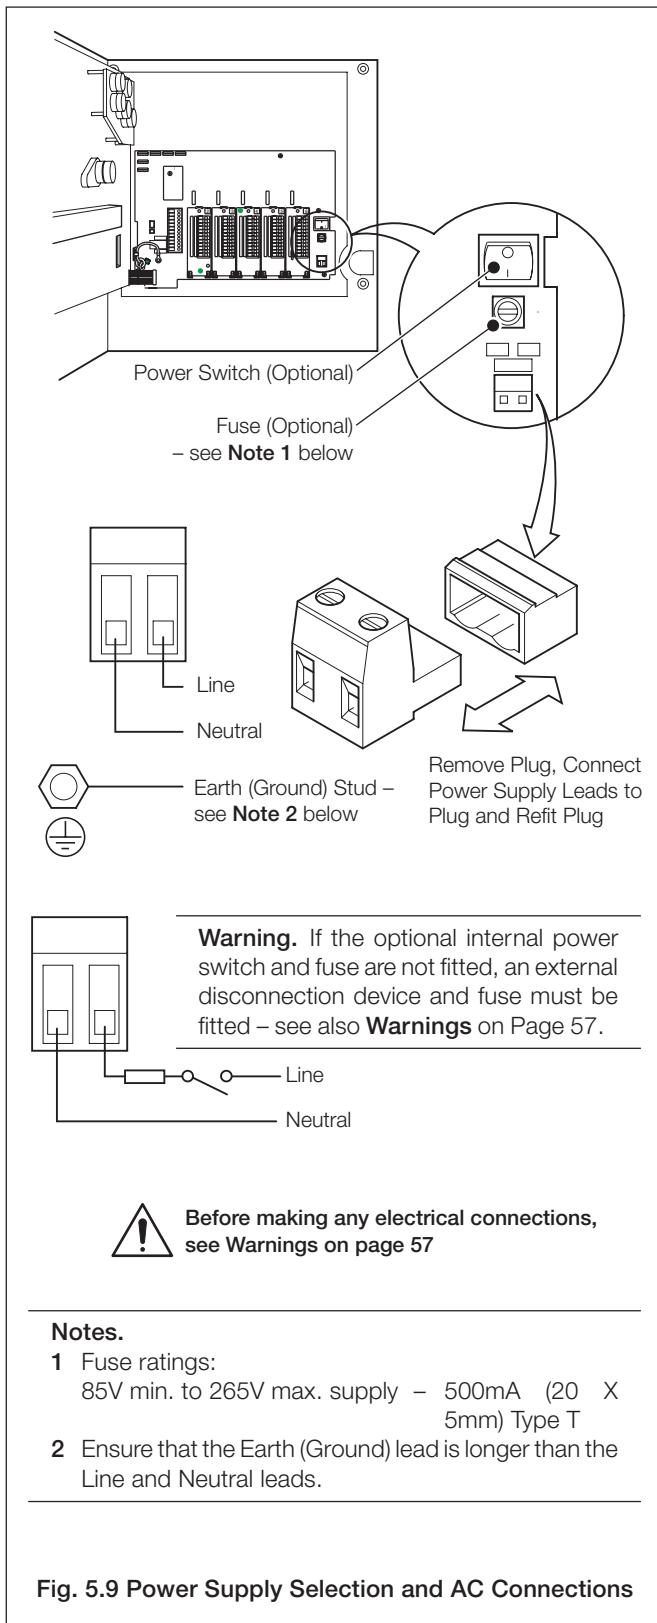

Fig. 5.9 Power Supply Selection and AC Connections
- To comply with Underwriter Laboratories (UL) certification, route signal leads and power cables in earthed (grounded), flexible metal conduit.
- Use screened cable for signal inputs and relay connections. Connect the screen to the earth (ground) stud – see Fig. 5.9.
5.4 Power Supply Selection and AC Connections – Fig. 5.9